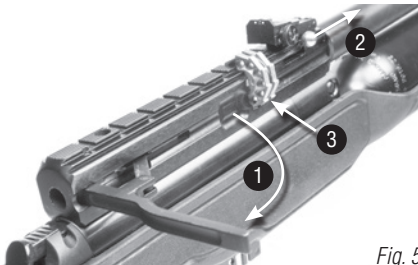

Fig. 5
1. Pull the cocking handle backwards until it stops and locks at the back. Keep the cocking handle open at the rear. **(Fig. 5) THIS OPERATION COCKS THE TRIGGER MECHANISM/HAMMER ASSEMBLY. IF THE SAFETY IS SET TO OFF POSITION AND THE TRIGGER IS PULLED, THE RIFLE WILL DISCHARGE.**
3. To fit the magazine into the air rifle; pull the cocking handle backwards until it stops. **(Fig. 5)**
4. Push forward the magazine release bolt. Insert the magazine into its slot from the right. **(Fig. 5)**